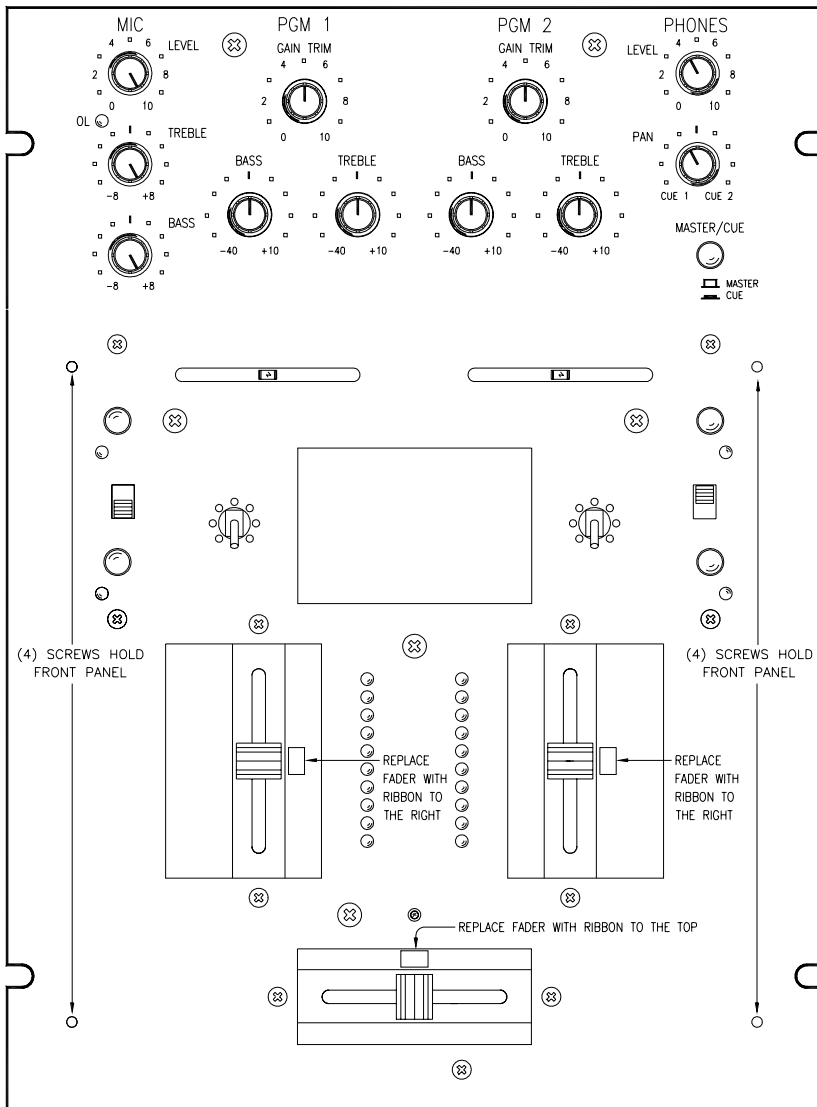

Figure 4. Phono/Line switch rotation or replacement
- ③ **BALANCE** controls are used for **LEFT/RIGHT** balance of **PGM 1** and **PGM 2** or for **LEFT/RIGHT** Pan effect. Push the control to the left and sound moves to the left channel. Push the control to the right and sound moves to the right channel.
- ④ **PHONO / LINE** source select switches are provided for **PGM 1** and **PGM 2**. These are “clickless” switches suitable for “transform scratch” applications. The switches are field replaceable and may be rotated in 45° increments. *See Figure 4 on page Manual-6 for rotation and replacement instructions.*
- ⑤ **HAMSTER** switches are provided for **PGM 1** and **PGM 2** **Program Faders**. These switches reverse the operation of the adjacent **Program Fader**. When engaged, signal is *off* with the **Program Fader up**, and *maximum* with the **Program Fader down**.
- ⑥ **Program Fader** controls for **PGM 1** and **PGM 2** are ultra low noise, long-life, monorail devices. An *ActiveFader™* design completely isolates the control element from the audio, providing the highest reliability and performance. *See page Manual-6 for cleaning and replacement instructions.*
- ⑦ **PGM 1** and **PGM 2 Meters** provide true L+R Dual Mono indication of **Post-Program Fader** signal levels. Ten segment resolution is provided with a one second peak hold indication. With the Program Fader set to maximum, the input **GAIN TRIM** should be set to indicate an average level of about +4.
- ⑧ **Crossfader** control is implemented using Ranes' proprietary *ActiveFader™* design. As with the **Program Faders**, all audio is isolated from the control element, greatly extending the life and performance of the control. *See page Manual-6 for cleaning and replacement instructions*